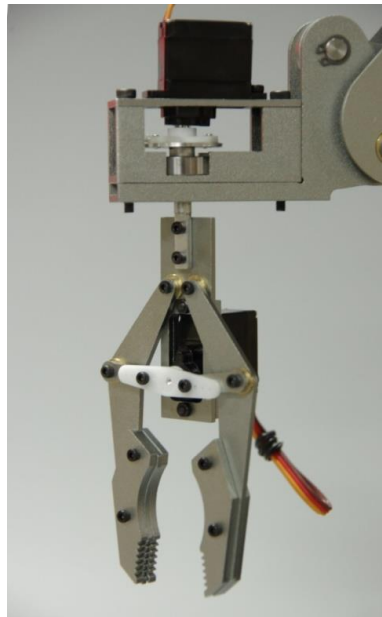

Figure 2.6 Gripper installation
2. Mounted Gripper is shown in Figure 2.6.